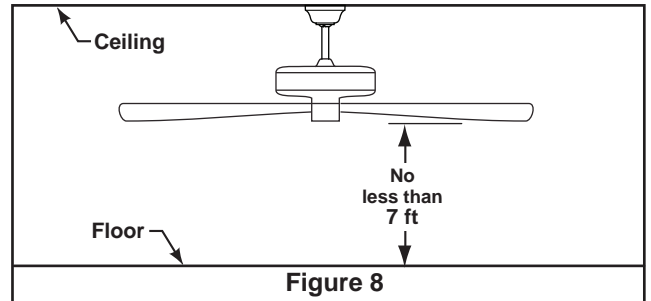

Figure 8
- 7. Install the remaining two screws removed in step 5 to secure the ceiling canopy to the ceiling bracket. (Figure 8)
The fan must be hung with at least 7' of clearance from floor to blades. (Figure 8)